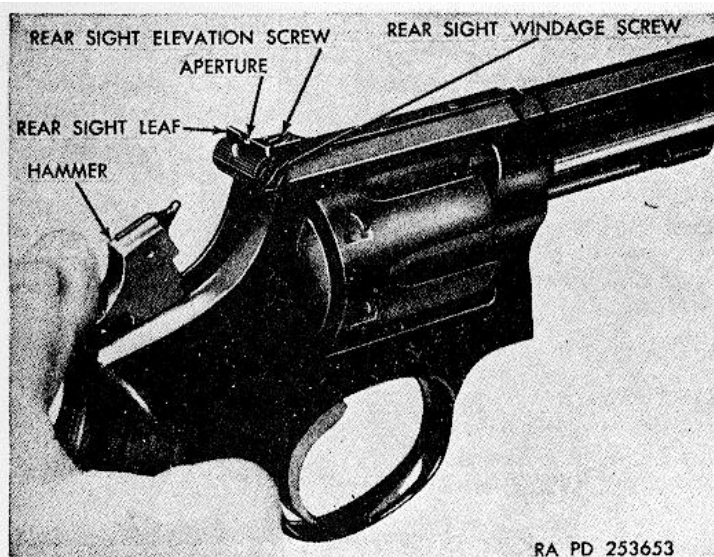
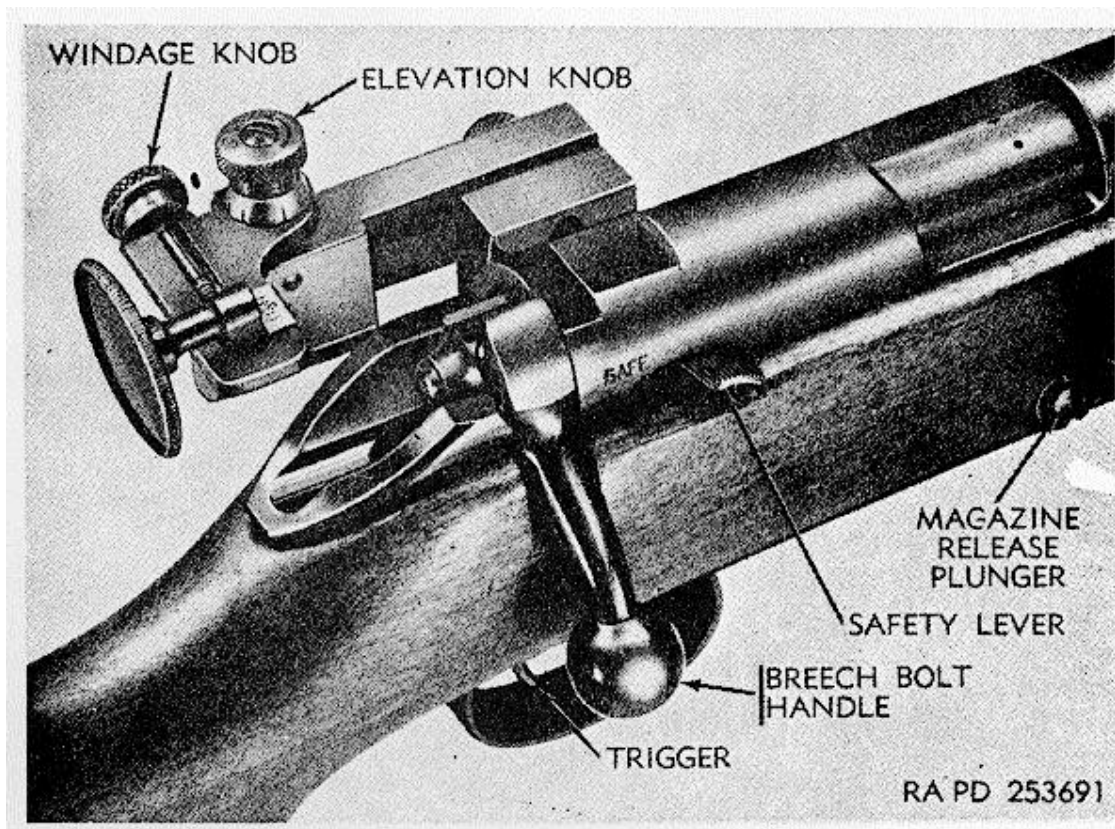
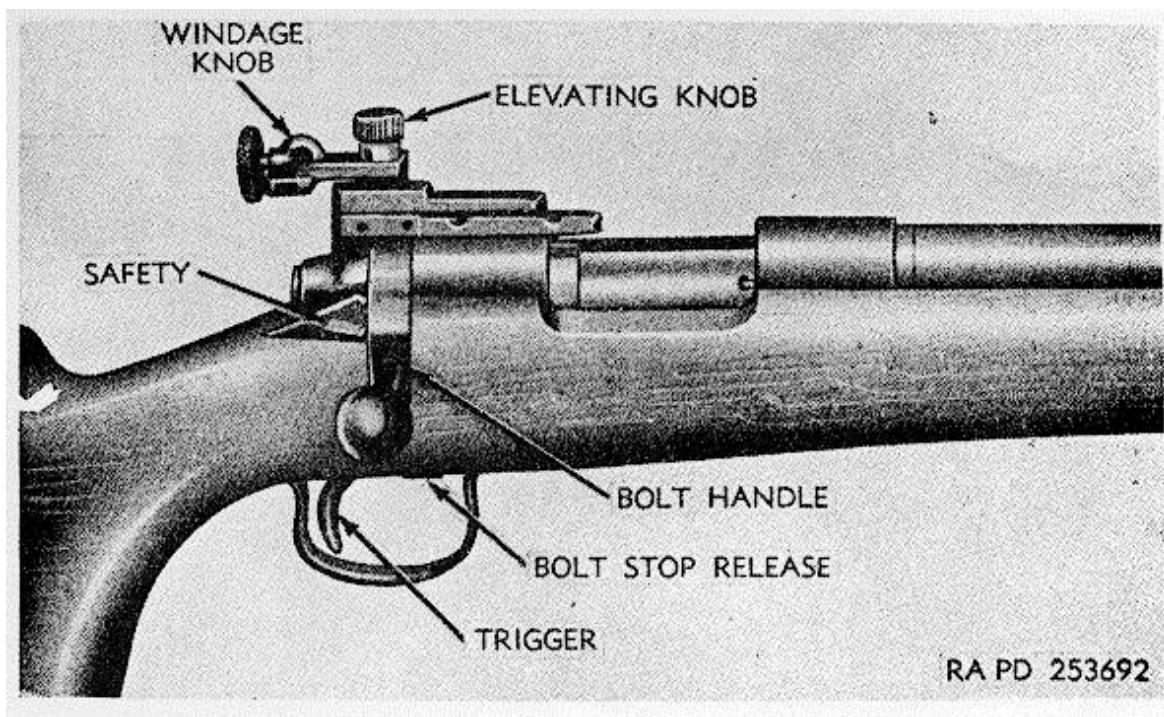

Figure 25. Cocking hammer to single action position (Smith and Wesson).
Figure 26. Controls cal..22 rifle M12 (Winchester model 52, heavy barrel).
Figure 27. Controls cal..22 rifle M12 (Remington model 40X-S1).
- (1) The hammer (fig. 25) is located at the rear of the frame above the stock. It is knurled and shaped to fit the thumb.
- (2) Depress the hammer fully downward and to the rear, to cock the revolver for single action firing.
- (3) Depressing the hammer to one-quarter full cock allows the cylinder to be rotated.
- (1) For double action firing, apply pressure to the trigger.
- (2) For firing single action, apply pressure to the trigger after the hammer has been cocked as described in c above.
g. Rear Sight Elevation Screw (fig. 25).
- (1) The rear sight elevation screw is located directly in front of the sight leaf on the rear of the frame.
- (2) Turning the screw clockwise one click, moves point of bullet impact downward 1/2 inch at a range of 25 yards.
h. Rear Sight Windage Screw (fig. 25).
- (1) The rear sight windage screw is located on the right side of the revolver beneath the sight leaf. A center index mark on the sight base locates the center position of the leaf.
- (2) Turning the screw clockwise one click, moves point of bullet impact 1/2 inch to the left for a range of 25 yards.
a. Breech Bolt Handle (fig. 26).
- (1) The breech bolt handle is located at the rear right side of the bolt assembly.
- (2) Lifting up the bolt handle cocks the firing pin.
- (3) Pulling the bolt handle and bolt assembly completely rearward extracts and ejects a cartridge.
- (4) Pushing forward on the bolt handle seats another cartridge from the magazine into the chamber.
- (5) Turning the bolt handle down will lock the breech ready for firing.
- (1) *General.* The safety lever (fig. 26) is located at the front of the bolt handle and operates on a horizontal plane. It is shaped to fit the thumb.
- (2) *Safe.* When the safety lever lock is at the rear of its slot, both the firing pin and bolt are positively locked.
- (3) *Fire.* When the safety lever is at the front of its slot, the rifle is ready to be fired.
a. Bolt Handle (fig. 27). Refer to paragraph 13a. After inserting a cartridge by hand, pushing forward on the bolt handle seats the cartridge in the chamber.
- (1) safety forward to the FIRE position and press up on the bolt stop release located just forward of the trigger.
- (2) Rotate bolt handle up and away from right side of receiver, and pull the bolt out of the rear of the receiver.
d. Safety (fig. 27).
- (1) *General.* The safety is to the rear of the bolt on the right side of the receiver.
- (2) *Safe.* The thumb piece of the safety is to the rear. With the safety in the SAFE position, the bolt handle only is located in the down position.
- (3) *Fire.* When the safety is in the FIRE position, the bolt handle can be raised to unlock the bolt and open the action for loading the weapon. Operation of the trigger will release the firing pin and fire the loaded weapon.
e. Trigger. The trigger (fig. 27) is located in the bottom of the stock immediately below the bolt handle
a. Bolt Handle (fig. 27).
- (1) The bolt handle is located at the rear right side of the bolt assembly.